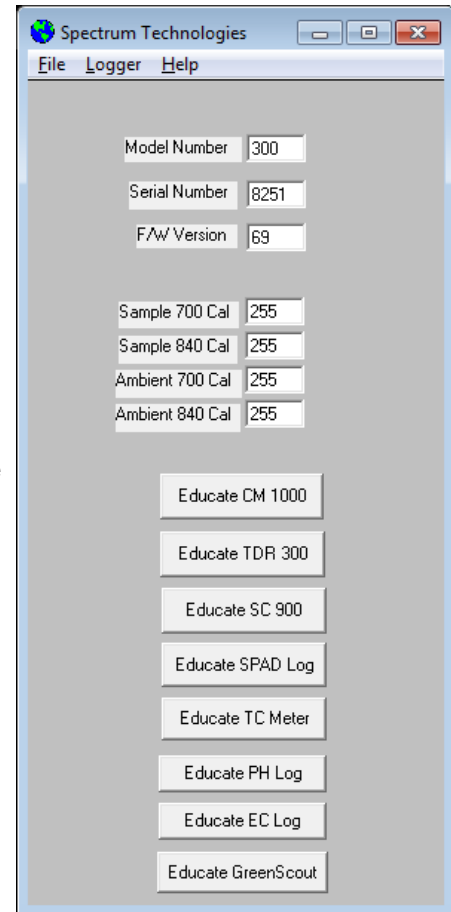

Figure 2. FSEDU32 main screen
4. Open the FSEDU32 program (see fig. 2) by double-clicking the FSEDU32.exe file.